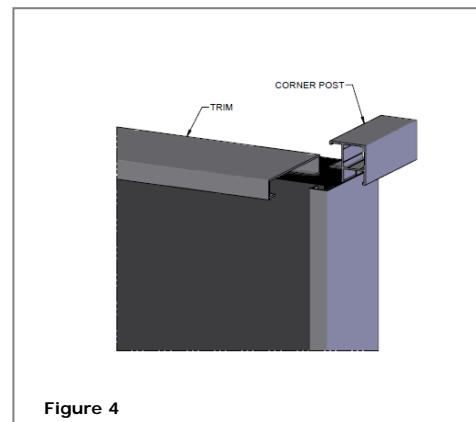

Figure 4
5. Slide the trim into the slots between the corner posts. **See Figure 4.**